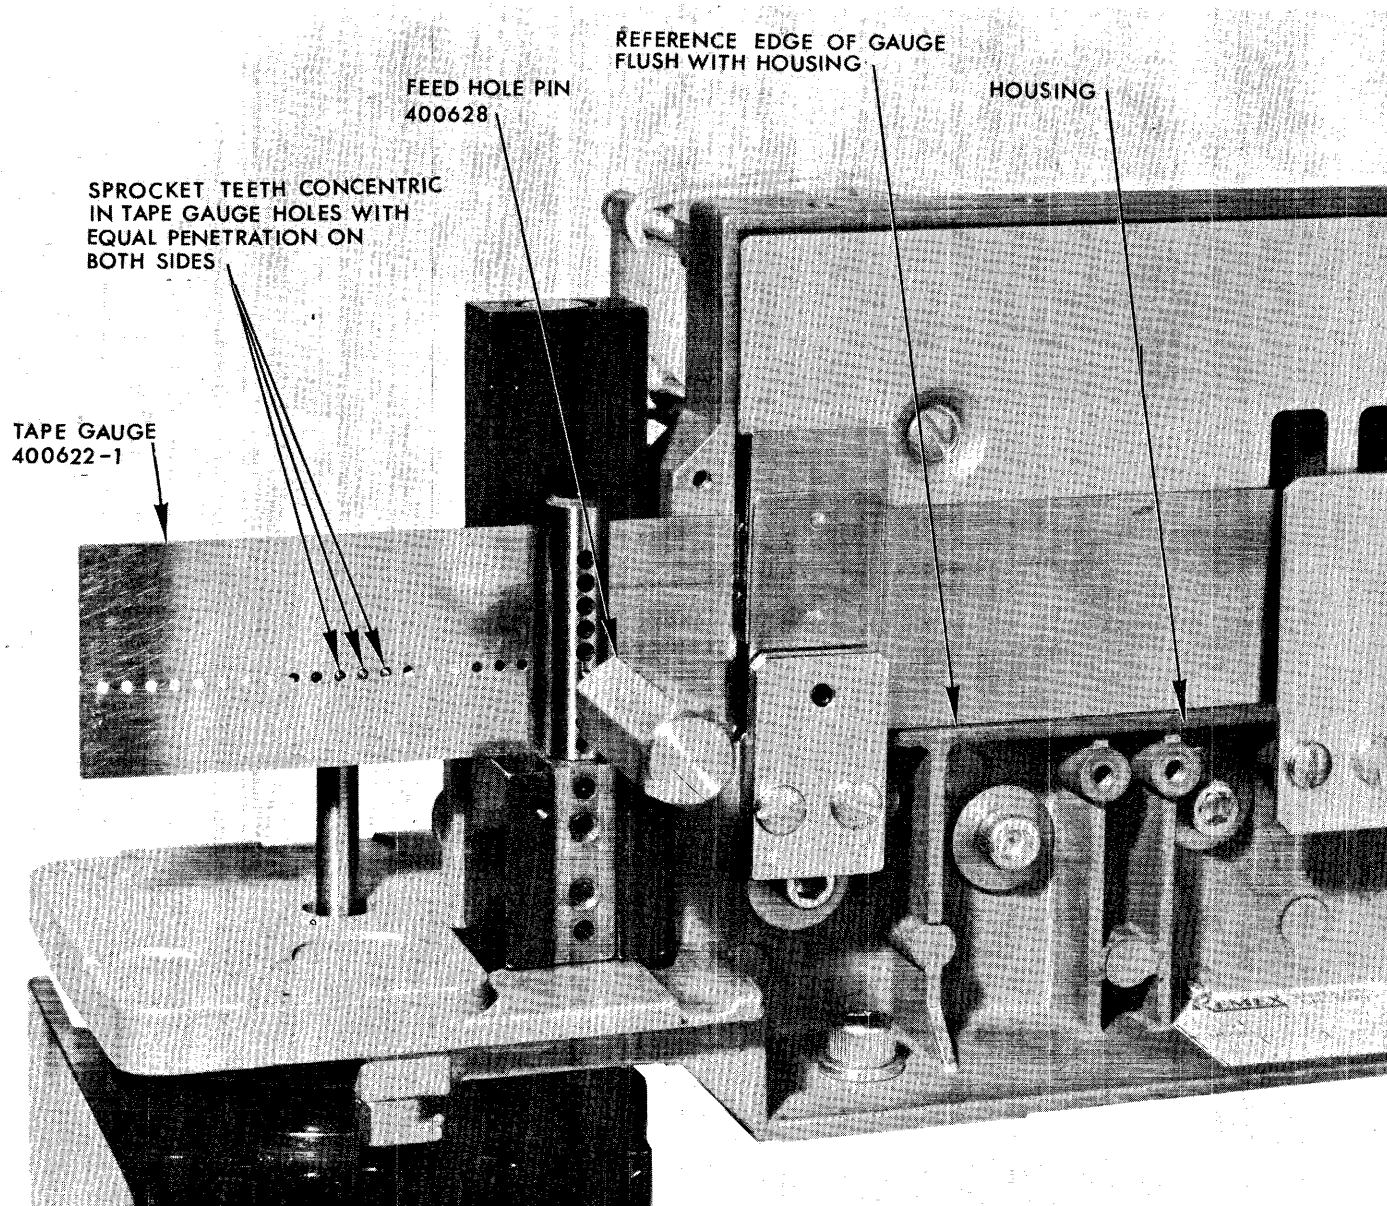

Figure 5-3. Sprocket Alignment Using Tape Gauge.
- c. Remove the two 4-40 x 1-3/8" socket head screws (A), flat and lock washers which hold the fixed tape guide to the tape drive assembly.
- d. Remove the three 4-40 x 1" socket head screws (B), flat and lock washers which hold the tape drive assembly to the perforator housing.
- e. Insert REMEX tape gauge 400622-1 (8-track) or 400622-2 (6 track) into the punch. Insert a feed hole pin from the chad side through both the feed hole in the block and the gauge to hold the tape gauge in position. It may be necessary to remove the chad tube and clean the punch block before inserting the feed hole pin. Refer to Section 5.3.1.2. Make sure the reference edge of the gauge is flush and parallel with the reference edge of the punch block. Refer to Figure 5-3.
- f. Check to see that the sprocket is correctly placed on the motor shaft so that the teeth are concentric with the feed holes in the gauge. Refer to Figure 5-3.
- g. If the conditions of step f do not exist, loosen the two set screws which hold the sprocket (C) to the motor shaft and slide the sprocket in towards the motor. Remove the delrin disk 111736-1. The delrin disk is press fit on the shaft but should slide off without using excessive force. Slide the sprocket out until the conditions in step f are met. Check the condition of the socket head and threads on the sprocket set screws and replace if they show signs of wear. Tighten one set screw. The REMEX part number for these screws is 713000-121.
- i. Check to see that the sprocket teeth are concentric and equal penetration on both the left and right side of the sprocket center line. Refer to Figure 5-3.
- j. If the conditions in step i do not exist loosen the screw (D) which holds the heat sink to the motor and remove the heat sink. Note heat sink orientation for proper reassembly.
- k. Loosen slightly the three 4-40 socket head screws (E) which hold the motor mounts to the perforator housing. The screws are loosened only slightly so that the in or out position of the sprocket does not change.
- l. Rotate the motor until the conditions of step i are present. If it is necessary to move the sprocket in or out slightly loosen the set screw (C), move the sprocket as required and tighten both set screws. Tighten the three motor mount screws. Recheck the concentricity and penetration. Repeat step i through l as required. Remove the tape gauge and feed hole pin.